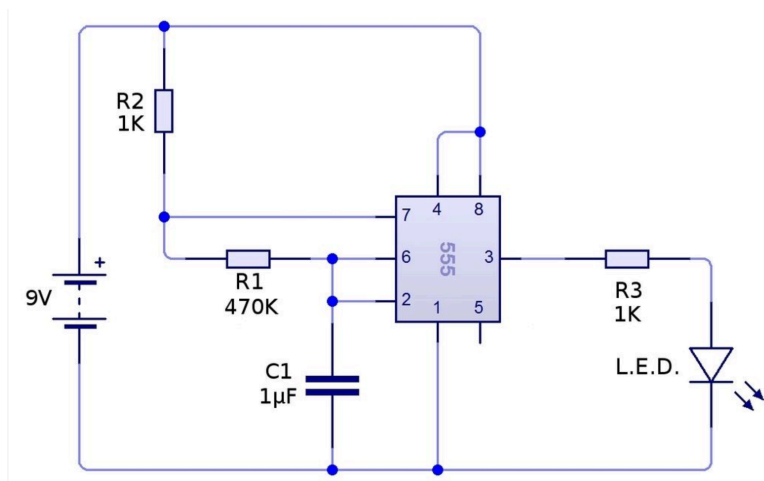

Figure 06.3: 555 Timer circuit diagram (Trilesto, 2018).
We will be building the circuit diagram of Figure 06.3. This circuit charges, then discharges the capacitor C_1 . The capacitor's voltage is applied to both pins 2 and 6, which control the flip-flop, but which are compared to different voltages. So the capacitor first charges up enough to trigger the output (3, which flows through the LED (through R_3 , which limits current). Once the capacitor charges up to initiate the reset, the LED turns off and the
3. Lay out the circuit in accordance with the circuit diagram of Figure 06.3 on a prototyping board. Use the $1\ \mu\text{F}$ capacitor, but connect it with an auxiliary breadboard.